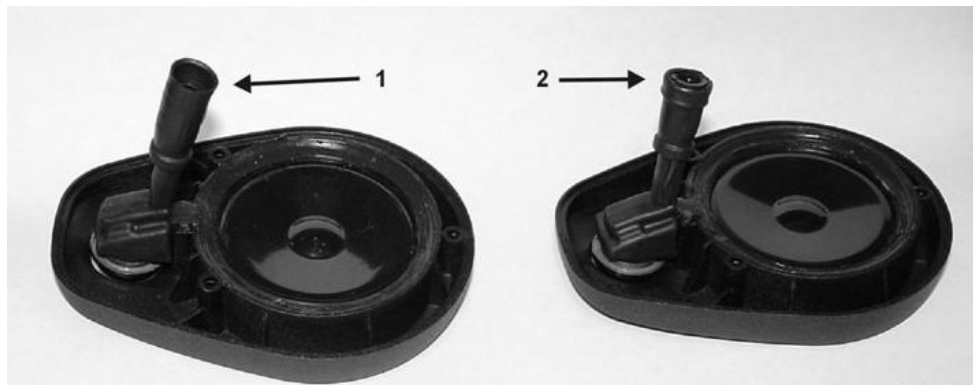

Figure 41: Speaker Pod connector shroud.
- Peel back the shroud at the end of the speaker pod plug as shown in Figure 41.